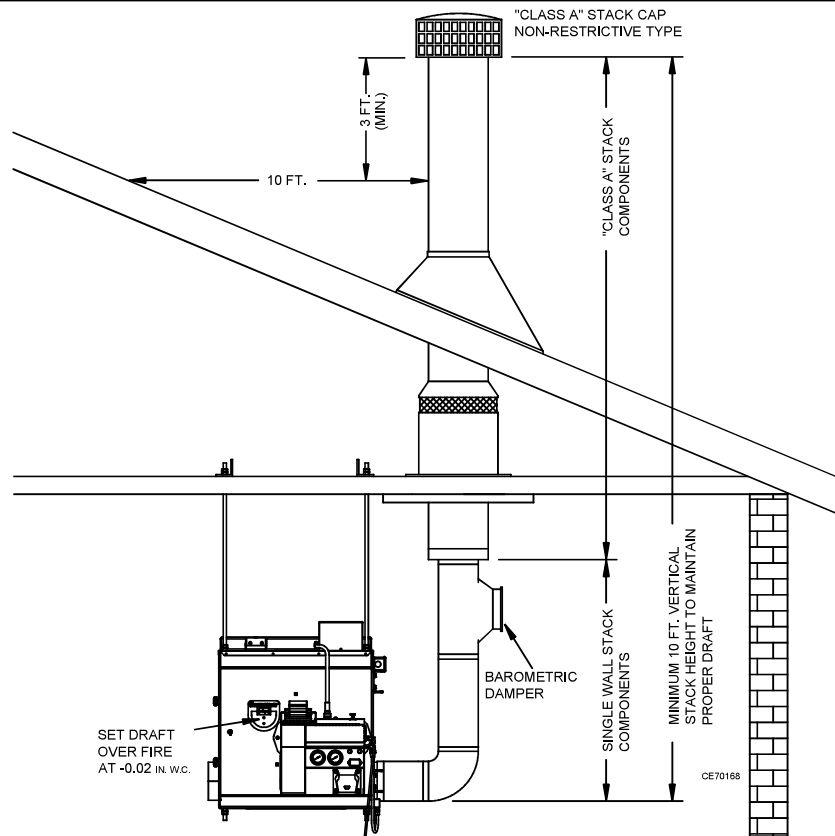

Figure 14: Typical Through-the-Roof Chimney Illustration
- (1) Refer to Figure 14 for a typical through-the-roof chimney illustration and Figure 15 for a typical through-the-wall chimney illustration.
- (2) Observe the following requirements when installing the chimney:
- (3) Single wall stack may be used inside the building. Observe proper clearances from combustibles. Do not put single wall stack in areas that may create a burn hazard to personnel.